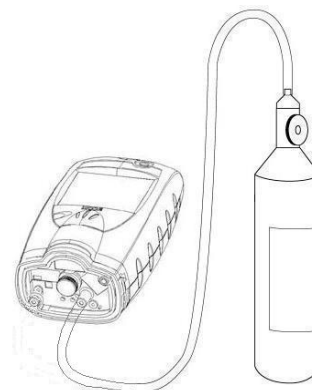

Figure 4.1 Bump Test / Span Calibration set up
- Attach the calibration adapter and connect the calibration cylinder to the MultiPro as shown in figure 4.1. Flow gas to the sensors.
Apply calibration gas as shown above in figure 4.1. The readout will change to a numerical display almost immediately and will continue to display the current readings.